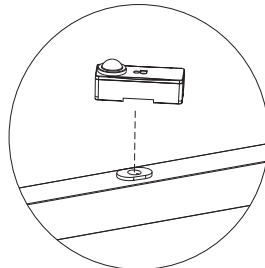

Fig. 2
- 2.Plug sensor to the receptacle.(Fig. 2)